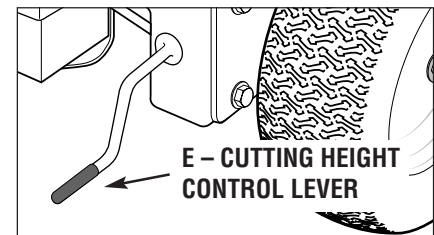

Figure 3-4
Use this lever (E, Figure 3-4) to adjust the cutting height from 1 to 4 inches. Note that actual cutting heights will vary according to soil conditions.
2. Adjust the cutting height from 1 to 4 inches by rotating the Cutting Height Control lever (Figure 3-4) either clockwise to raise the height or counterclockwise to lower the height. Note that actual cutting heights will vary according to grass and soil conditions. A decal and pointer on the right side of the mower deck indicates the height setting.